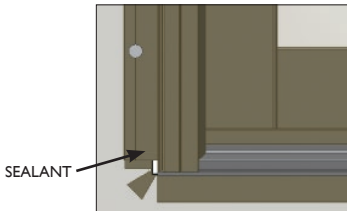

FIG. 21
- A) **IMPORTANT!** Below the nail fin at both bottom corners, apply a generous amount of silicone to seal the void between the rough opening and the sill. If the gap is too large, insert backer material in the void prior to sealing. (Fig. 21)